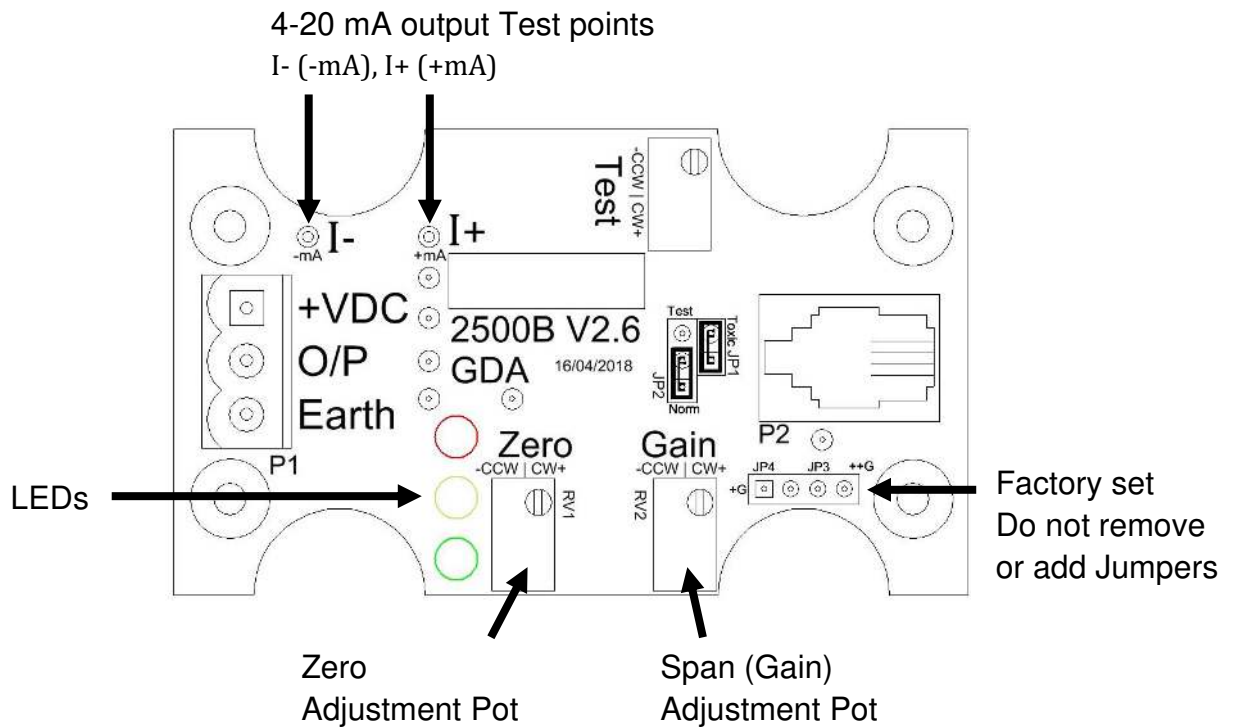

Figure 6: Calibration adjustment pots and rang selection
Calibrate using the 4-20 mA test points and a multimeter see Figure 6 for mA output test points and adjustment pots.
2. Apply the multimeter to the sensors 4-20 mA current test points see Figure 6 (observing the polarity).
Calibration using the 4-20 mA test points and a multimeter see Figure 6 for mA output test points and adjustment pots.
- a. When the current meter value stabilises (the value may flicker  $\pm 0.05$  mA) adjust the SPAN (Gain see Figure 6) pot until the required mA value is displayed on the current meter. See Table 4 below calculations to determine the correct mA value for the calibration gas.